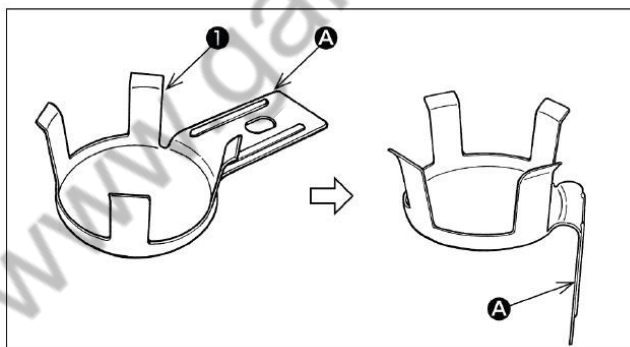

Fig.2
Fold mounting section (A) of waste oil receiver bracket (1) at a right angle. See fig.2